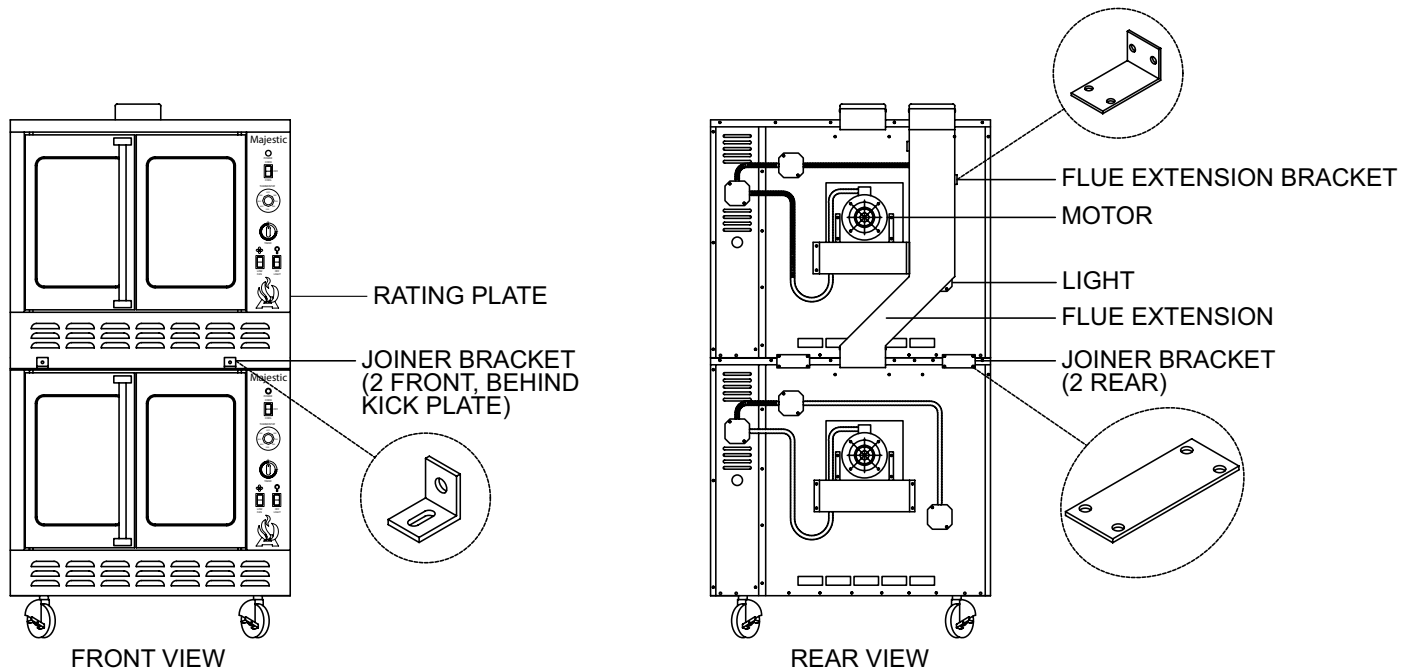

Figure 2
Rating Plate - The location of the rating plate is shown in *Figure 2*. The information on the rating plate defines the model, serial number, gas type (natural or liquid propane), operating pressures and burner BTU ratings. Keep this information for future reference. It is essential for proper identification of the unit when requesting additional information or factory support.
3. Remove top kick plate by lifting and pulling forward. Then bolt by rear and front joiner brackets as shown in *Figure 2*.